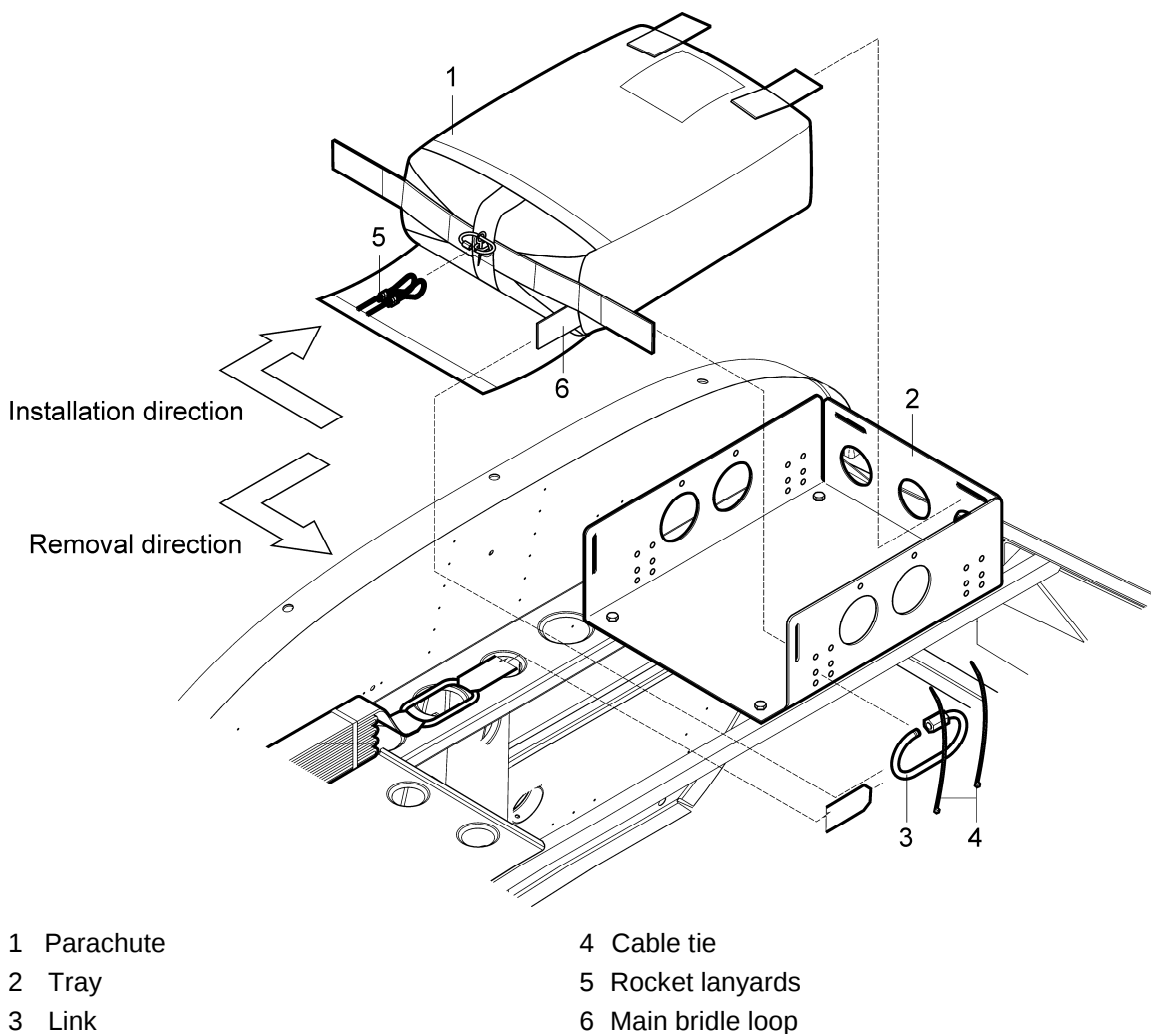

Fig. 7-4: BRS parachute removal / installation
- (d) Pull open the front flap of the parachute (1, Fig. 7-4) and expose the small link; unscrew the link nut and disconnect the rocket lanyards (5).
- (f) Cut-off cable ties (4) securing link (3) to the tray.
- (g) Unscrew the link (3) nut and disconnect the loop of the main bridle (6).
- (i) Carefully remove parachute (1) from the tray (2).